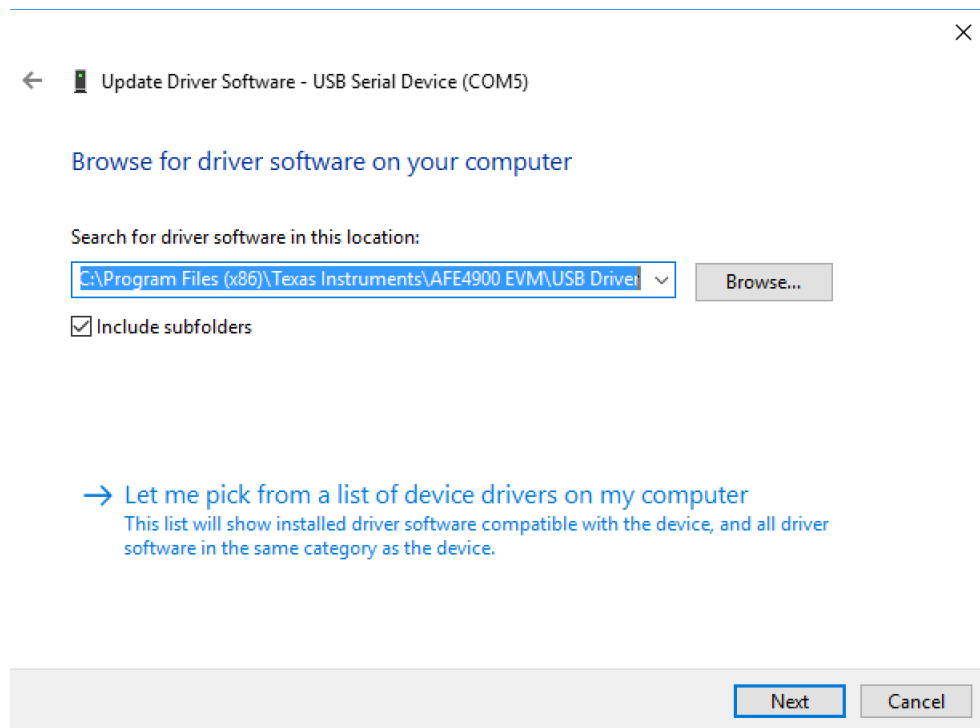

Figure 30. USB Driver Installation – Screen 3
4. Select *Let me pick from a list of drivers on my computer* option as shown in Figure 30.